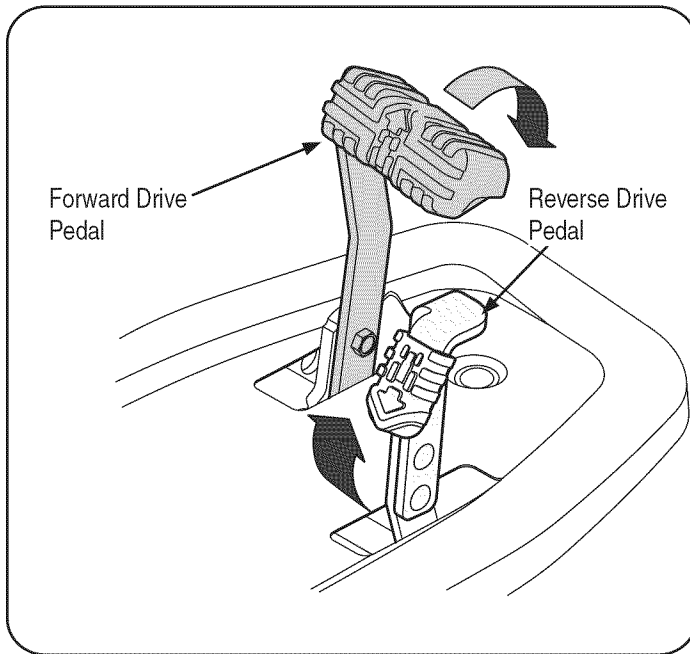

Figure 5
2. To travel forward: Slowly depress the forward drive control pedal until the desired speed is achieved. See Figure 5.
3. To travel in reverse: Check that the area behind is clear, then slowly depress the reverse drive control pedal until the desired speed is achieved. See Figure 5.